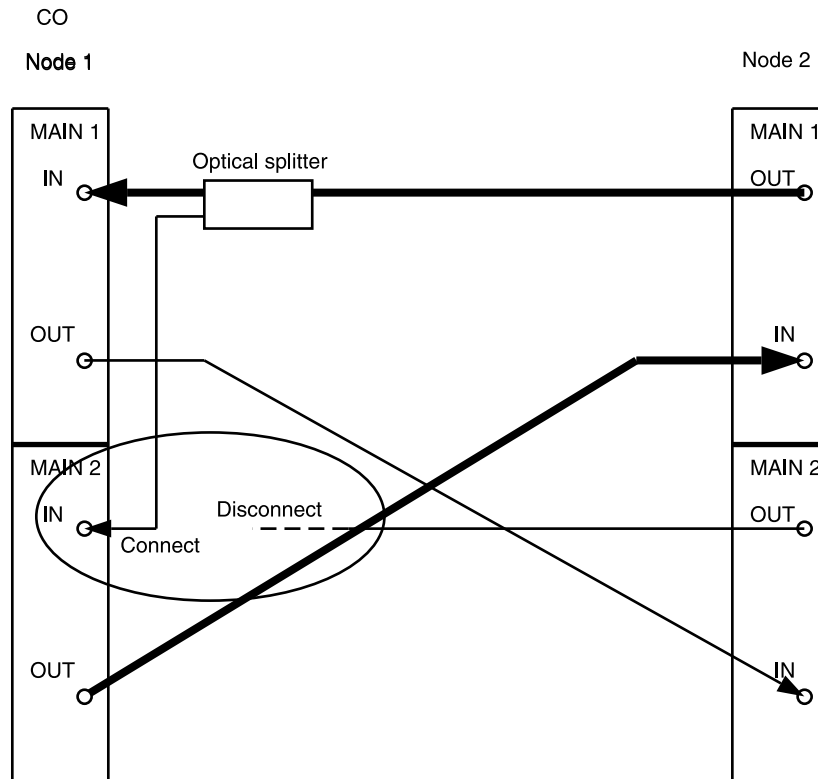

Figure 11 - DDM-2000 OC-3 Point-to-Point to Ring Upgrade
21. Disconnect optical fiber from Node 1 **MAIN 2(P) IN** and connect remaining optical splitter output to **MAIN 2(P) IN**. (See Figure 11.)